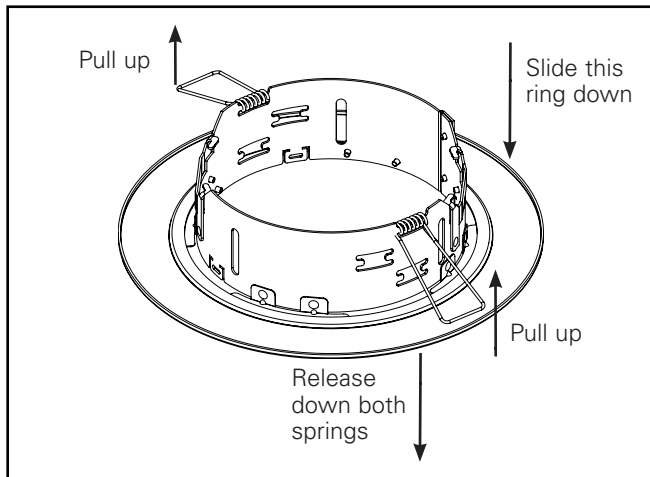

Figure 29
2. Bend the two springs up by compressing them as shown (Figure 29).
3. With the flat surface down, carefully slide the Adapter Ring over these two springs (Figure 29).